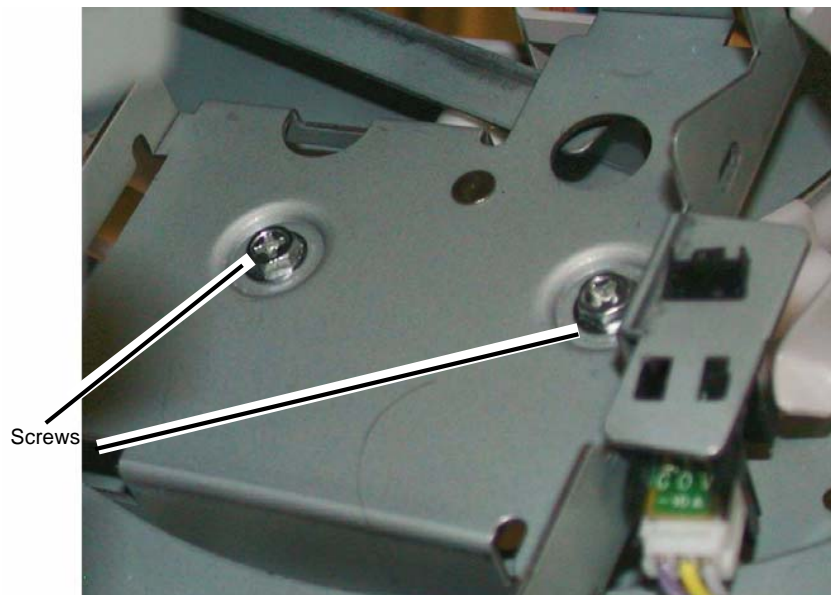

Figure 1 Removing the Screws
4. Remove the Screws (2) (Figure 1).